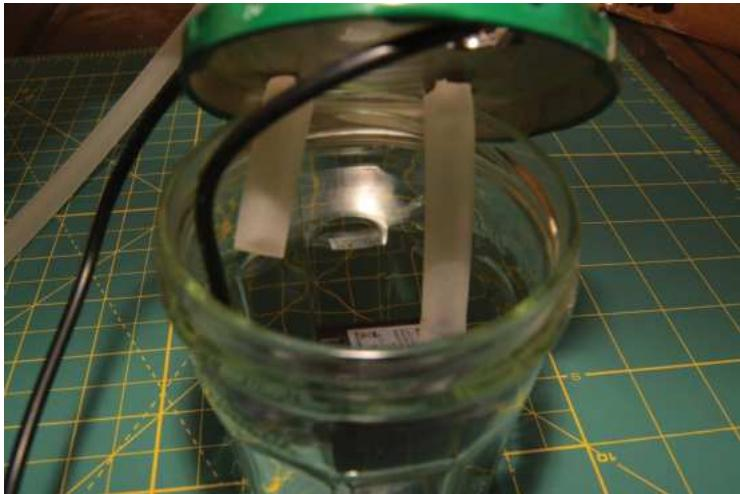

FIGURE 6-7: Connect one tube to the submersible pump’s outflow, and let the return tube dangle.
1. Connect one of the plastic tubes to the outflow nozzle on the pump. The return tube doesn't need to attach to anything (see Figure 6-7).